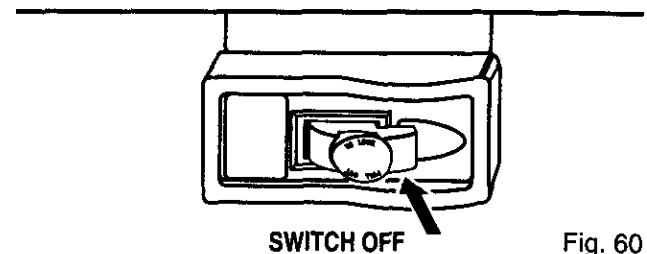

Fig. 60
- When work is completed, press switch off and remove switch key. See *Figure 60*.